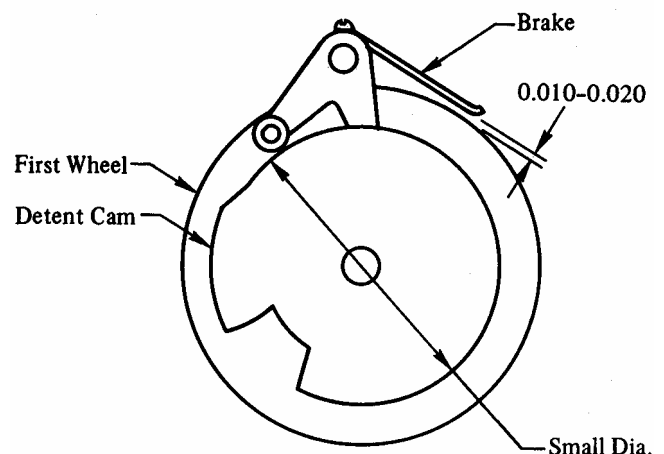

Figure 28. Brake Adjustment.
- Rotate reset gear to position cam as shown in Figure 28. b.